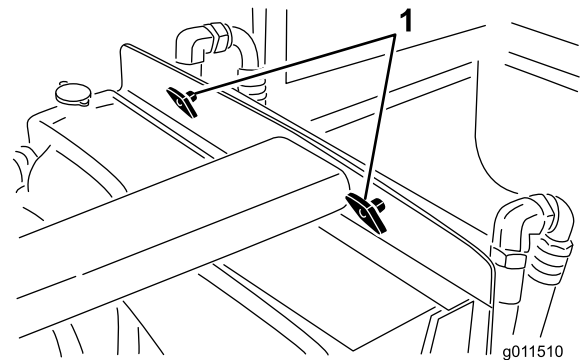

Figure 67
2. Remove the knobs (Figure 67) securing the oil cooler to the frame.